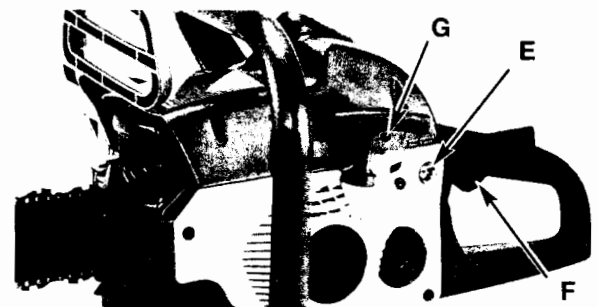

Fig. 6
6. Fully press and release the primer bulb (E) 10 times, slowly. Some amount of fuel should be **visible in the primer bulb** (Fig. 6). If you can't see fuel in the bulb, press and release the bulb as many times as it takes before you can see fuel in it.
8. Pull the rope with a **controlled and steady motion 4 times**. Then move the blue lever (D) all the way in (Fig. 6).
1. locate idle adjustment screw (G), (fig. 6)